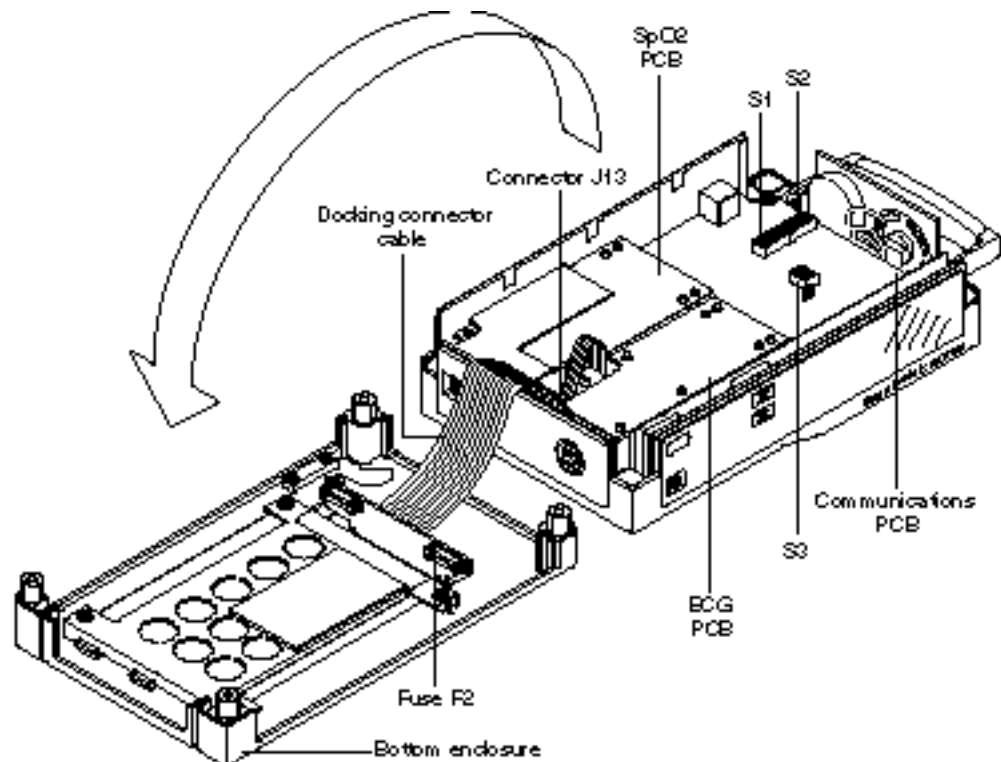

Figure 6-5: Opening the N-3000 Monitor
4. Pull the unit apart, swinging the bottom half to your left, as illustrated in Figure 6-5.
2. The switch settings on the Communications PCB are shipped for RS-232 communications and should be as follows (refer to Figure 6-5):
2. With the monitor upside down and facing you, open up the chassis as shown in Figure 6-5.